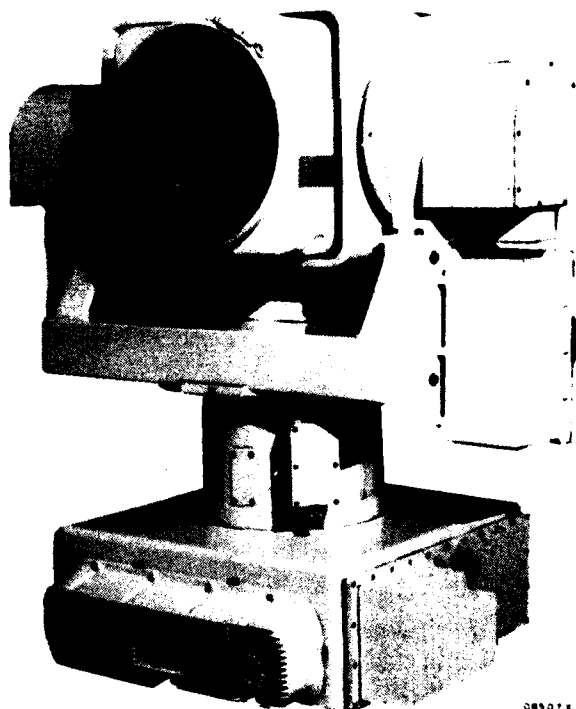

Figure 1.1 Model O66A Searchlight Positioner
1.2. General Description. The Model O66A Searchlight Positioner is a precise electromechanical device used to position a high intensity searchlight. The positioner is driven in the azimuth (AZ) axis, and in the elevation (EL) axis by direct drive DC torque motors. The positioner is shown in Figure 1.1.